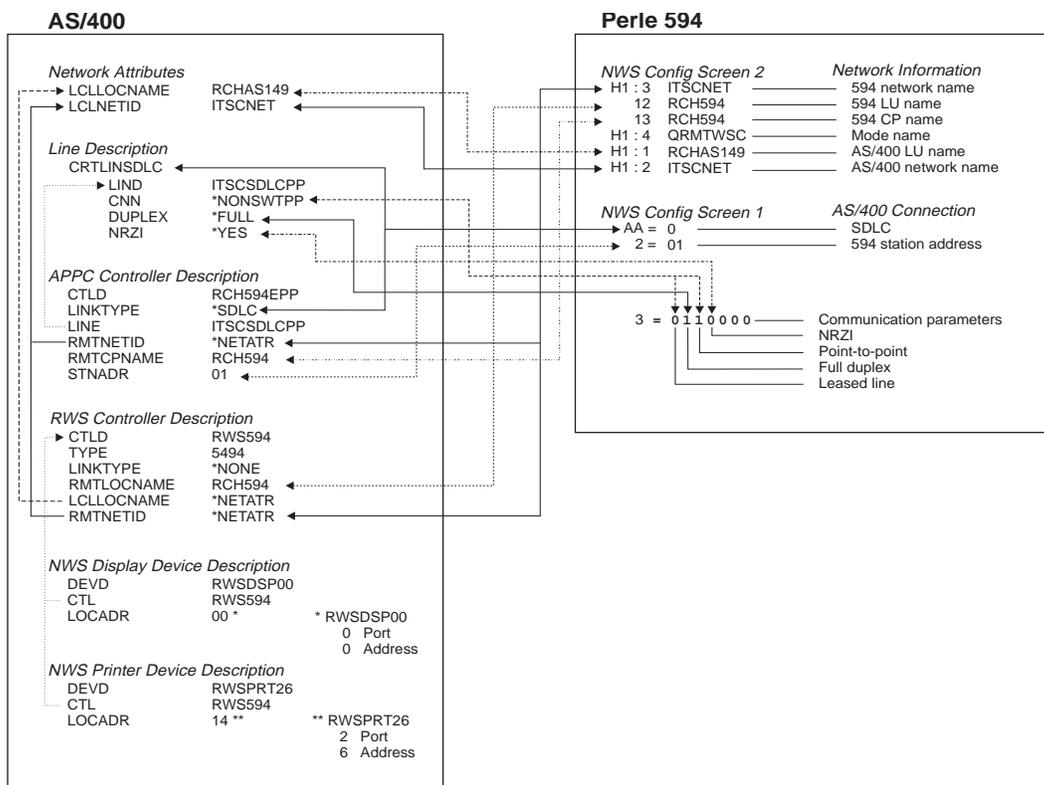

Fig. 2: SDLC Leased configuration cross-reference
- Fig. 2: SDLC Leased configuration cross-reference 2